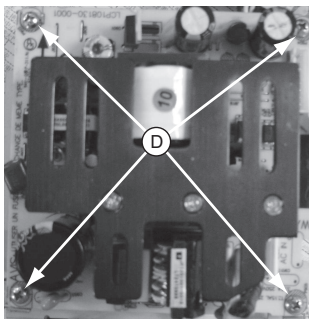

Figure 4
- 1) Loosen 4 screws "D" on the top of SMPS Board as shown in figure 4 to remove SMPS Board.